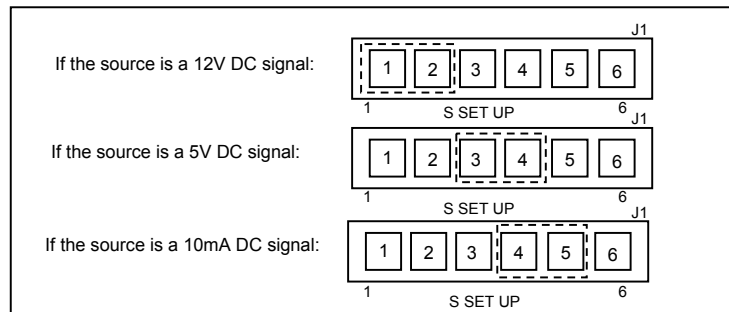

Figure 7
- For a 12V DC output signal, position the jumper on pins 1 and 2 of the J1 (S SET UP) header. *(Refer to Figure 7)*
- For a 5V DC output signal, position the jumper on pins 3 and 4 of the J1 (S SET UP) header. *(Refer to Figure 7)*
- For a 10mA DC output signal, position the jumper on pins 4 and 5 of the J1 (S SET UP) header. *(Refer to Figure 7)*